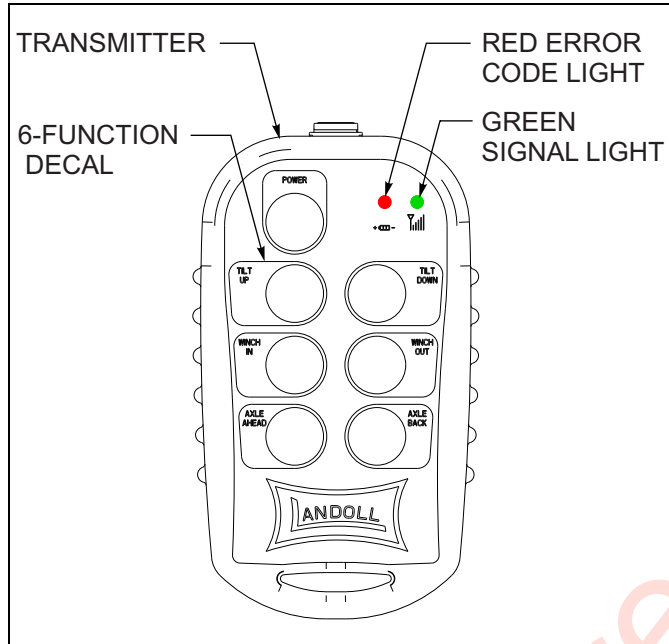

Figure 3-13: Remote Control Transmitter
1. A wireless six function radio remote control is available (**See Figure 3-13.**)